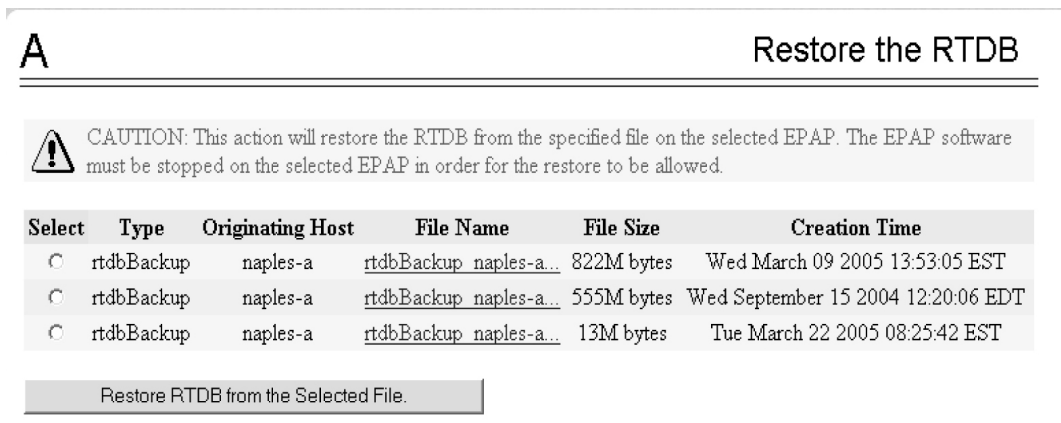

Figure 18: Restoring the RTDB
6. Select **RTDB>Maintenance>Restore RTDB**. The screen shown in *Figure 18: Restoring the RTDB* displays:
- On the screen shown in Figure 18: Restoring the RTDB, select the file that was transferred in Figure 18: Restoring the RTDB. Click **Restore the RTDB from the Selected File**.